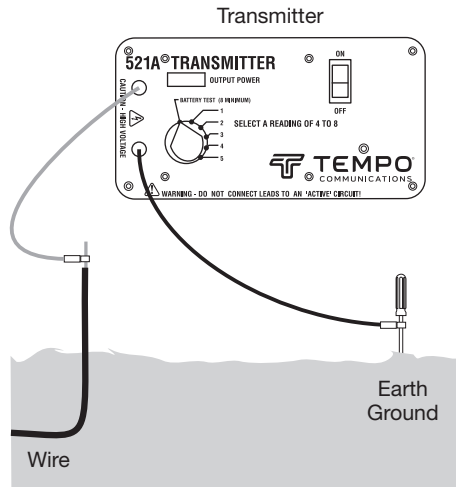

Figure 1 – Transmitter Setup
1. With the transmitter off, connect the red lead to the wire to be located and the black lead to a good earth ground with the stake provided. (Refer to Figure 1.)